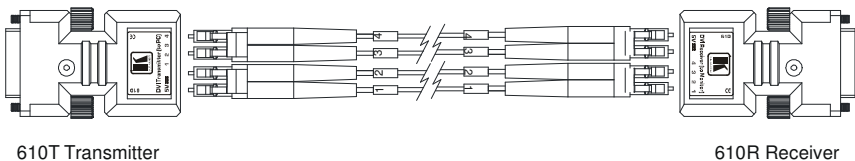

Figure 3: Connecting the Fiber Optic Cables
5. Connect the duplex LC fiber cables² to the **610T** and **610R** modules, one cable at a time, as illustrated in Figure 3.